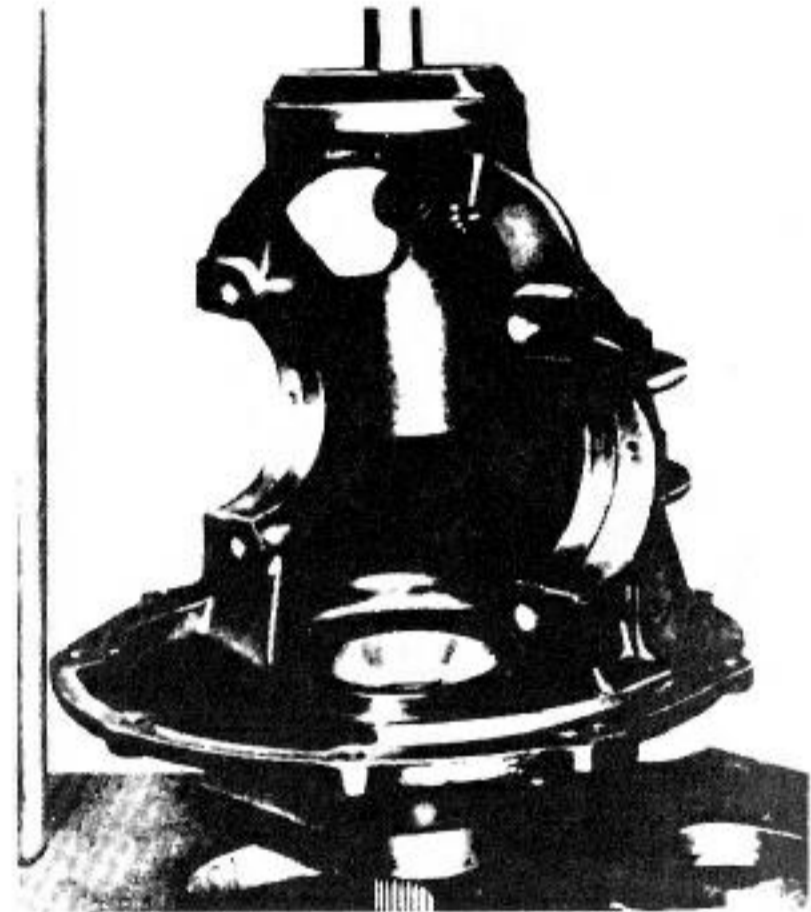

Fig. 11-12. Pressing carrier onto converter seal.
2. Press the differential carrier down on the torque converter oil seal, as shown in Fig. 11-12.